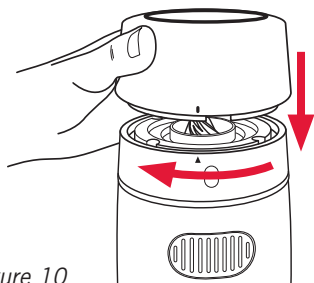

Figure 10
6. Once both the burrs are cleaned, return the collar to the grinder base by aligning the notch on the collar with the arrow on the rear of the grinder base. See figure 10.